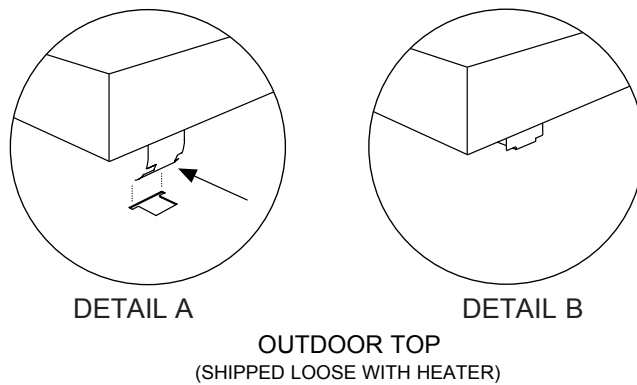

Figure 10. Outdoor Top Installation for Models 0181-0401 and 0182-0400
1. Insert tabs of outdoor top into keyholes located on jacket top panel (4 places). See Figure 10, Detail A.
2. Snap tabs on outdoor top into the locked position of the keyhole so the top will not pull out. See Figure 10, Detail B.